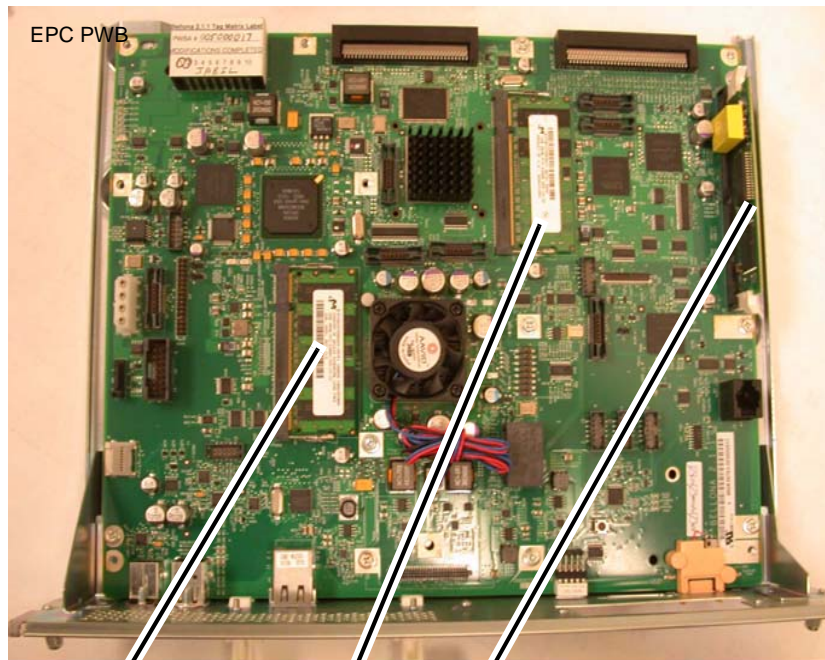

Figure 3 Removing the memory PWBs
8. Remove the System Memory, EPC Memory, Flash ROM and NVM PWBA from the SBC PWB (Figure 3).
1. Install the System Memory, EPC Memory, Flash ROM and NVM PWB onto the new SBC PWB (Figure 3).